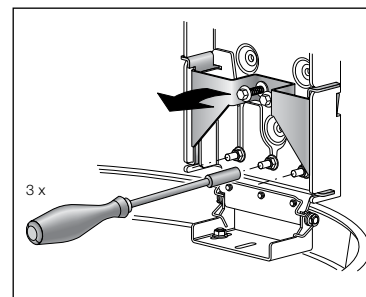

Figure 4: Canopy Removal
4. Unscrew the 3 nuts above the hinge until the end of thread using a 8mm socket wrench. [Figure 4]